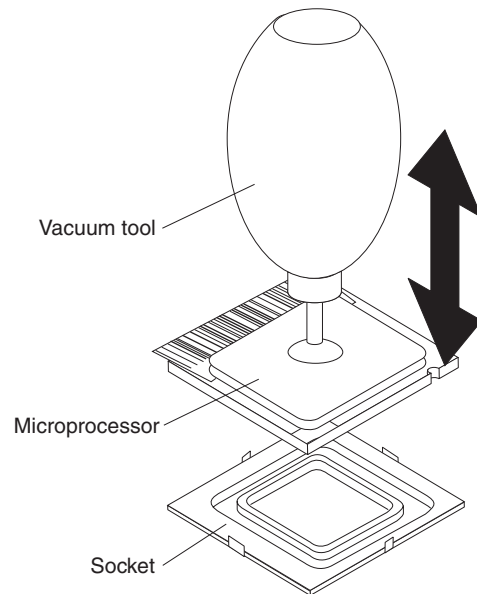

Figure 56. Removing the microprocessor
11. Remove the microprocessor by using the vacuum tool and completing the following steps (see Figure 56).